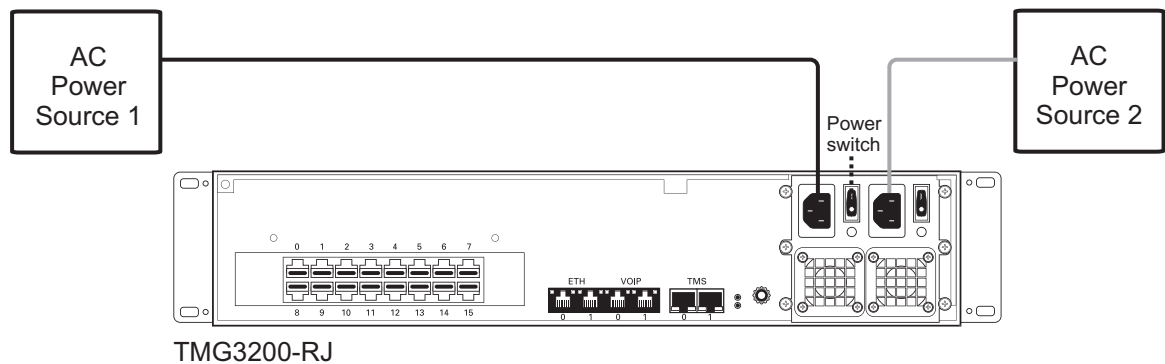

Figure 2.8 AC Power Connection
1. Connect an AC power cable between the AC connector of the TMG3200 and an AC supply. See figure 2.8 on page 25.
**Note** If the TMG3200 features a second power supply and it is not connected to an AC power source, press the green button located at the rear of the unit to disable the audible alarm. See figure 2.8 on page 25.